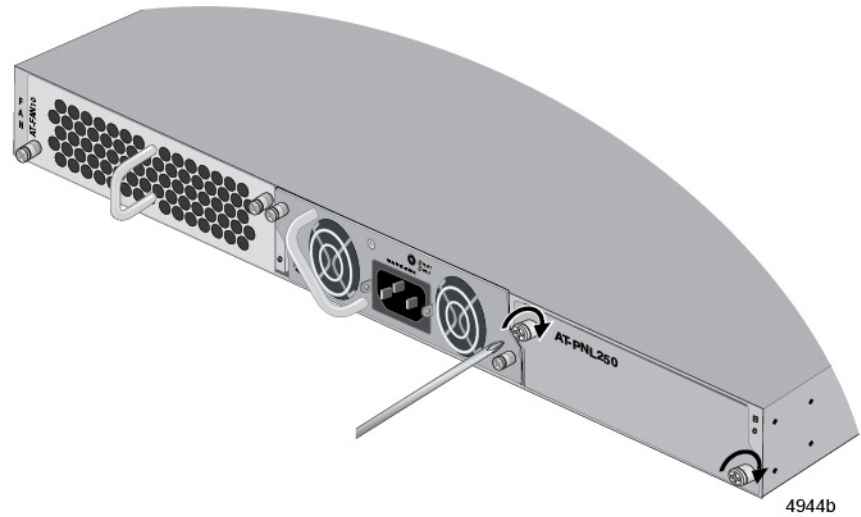

Figure 24. Tightening the Captive Screws on the Power Supply Blank Panel
2. Tighten the two captive screws with a cross-head screwdriver to secure the panel to the switch. Refer to Figure 24 on page 69.